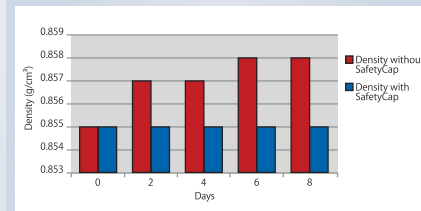

Fig. 1 Changes in the density of a methanol/water mixture
0.855 g/cm3 of the solvent mixture rose to a density of 0.858 g/cm3 (Fig. 1). An increase in density indicates that there has been a greater loss of methanol than of water from the mixture. This loss did not occur in the same mixture ratio.